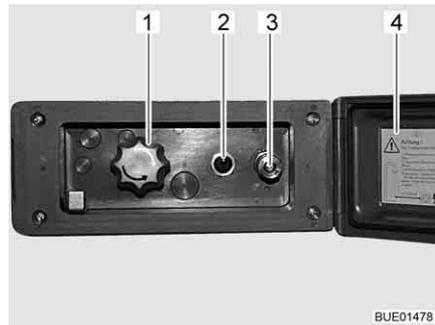

Fig. 113 External shower connection point
- Unlock and open the cover (Fig. 113,4).
- Attach hose of the external shower to the quick closure (Fig. 113,3).
- Switch on the water pump using the switch (Fig. 113,2).
- Adjust the water temperature with the rotary knob (Fig. 113,1) as desired.
- Switch off the water pump using the switch (Fig. 113,2).
- Close the cover (Fig. 113,4) and lock with key.
- Turn knob (Fig. 113,1) to the centre position.